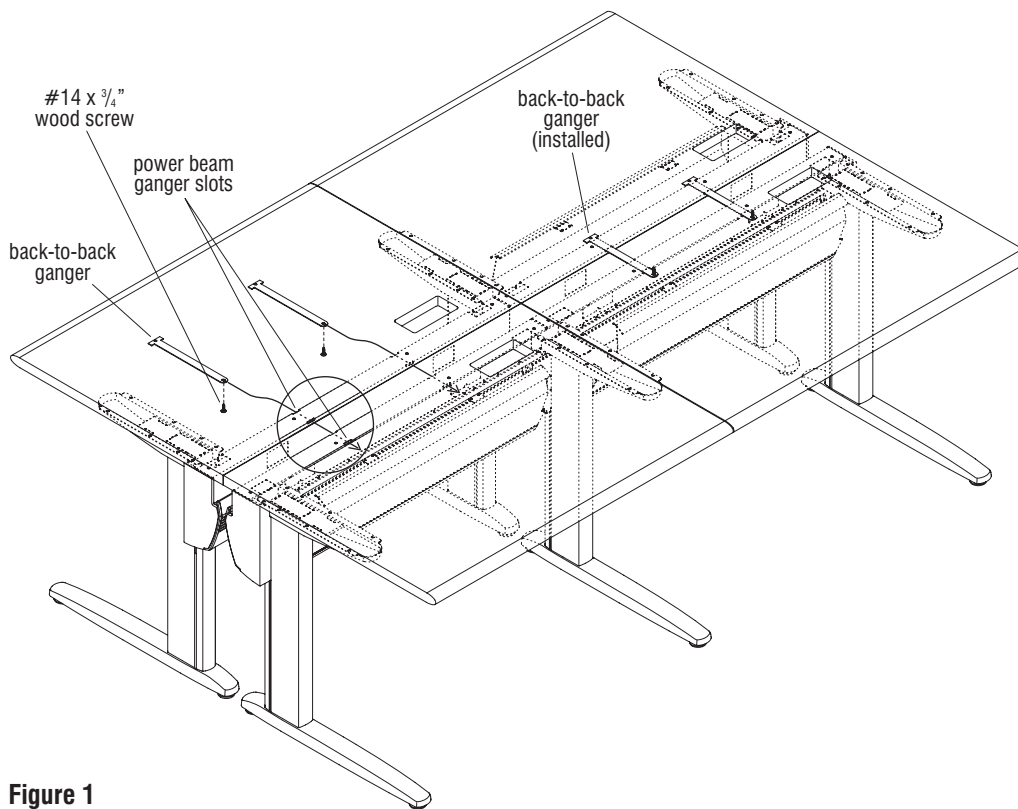

Figure 1
1. Locate the rectangular beam ganger slots which are located along the top, where the beam meets the worksurface. Slide the back-to-back gangers through the slots of the first beam and through the slots of the second, back-to-back beam. Align the mounting slot of the back-to-back ganger with the pre-drilled hole under the second worksurface. Secure each ganger to the worksurface with #14 x $\frac{3}{4}$ " wood screw. Repeat the above procedure with all back-to-back worksurfaces (Figure 1).